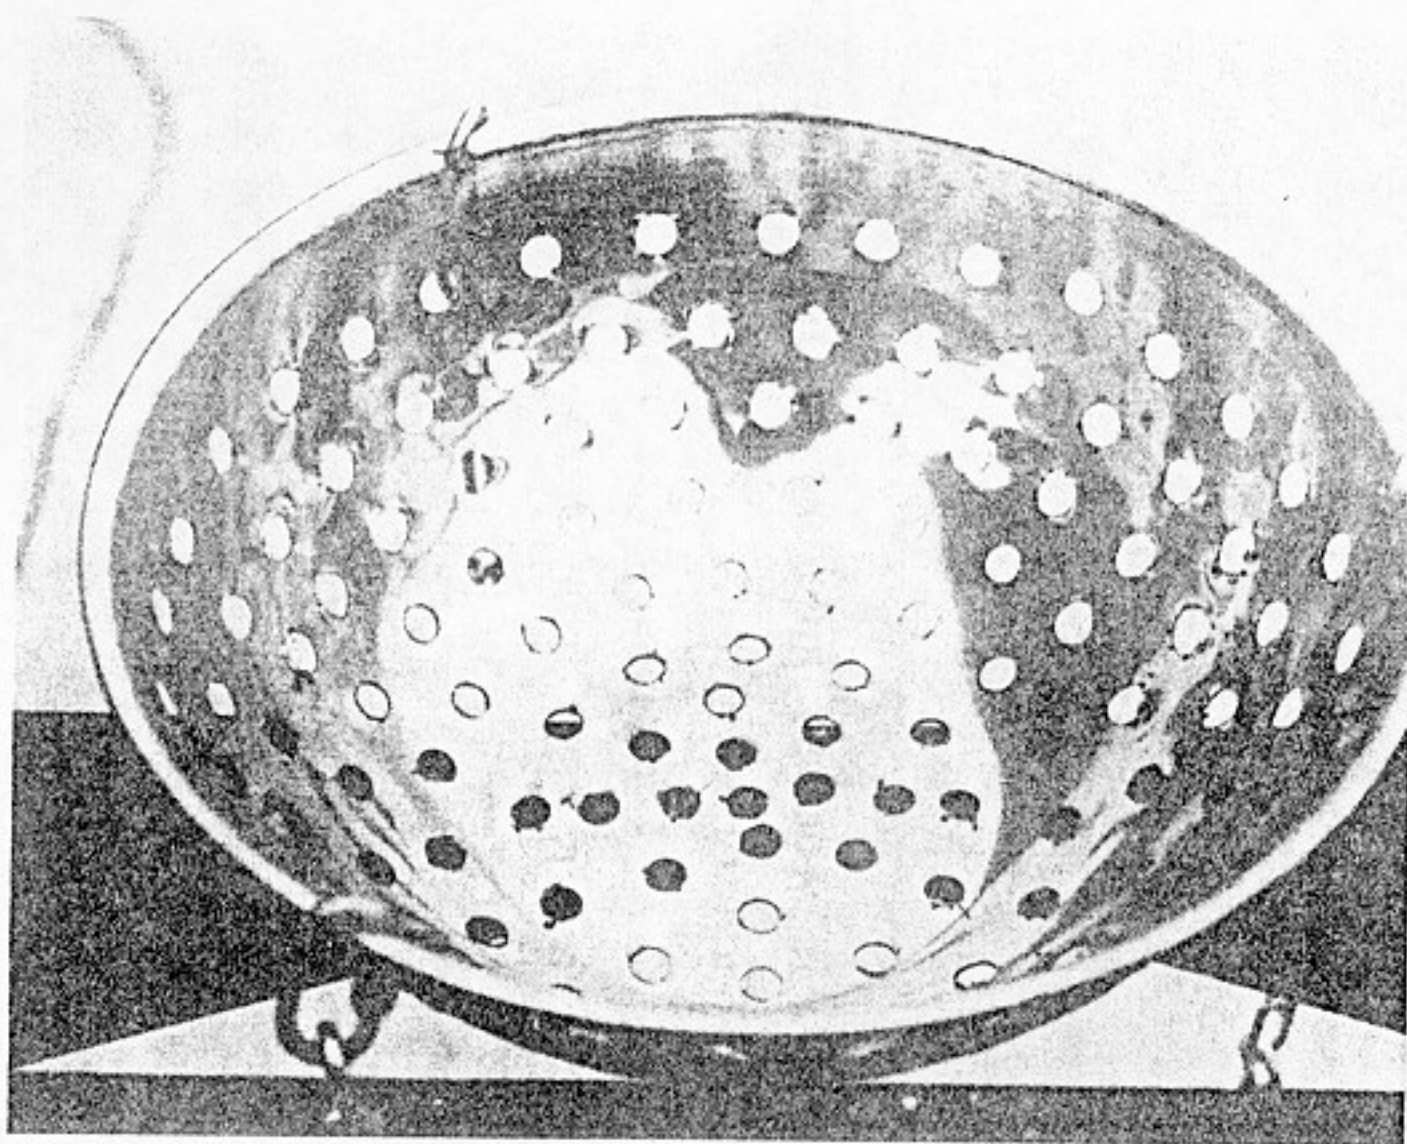

Fig. 2-5. Chains attached to the lip of the stainless steel mixing bowl.
4. The support chains (Item 6A) are to be attached to the grate in three evenly spaced holes drilled under the lip of the mixing bowl or colander; see Fig. 2-5. These chains are to be connected to the top plate (Item 2A) with eyebolts (Item 7A), as shown in Fig. 2-6. Each eyebolt should have two nuts, one on each side of the top plate, so that the eyebolts can be adjusted to the proper length. When assembled, the bottom of the firetube should be 1.25 in. above the bottom of the mixing bowl.